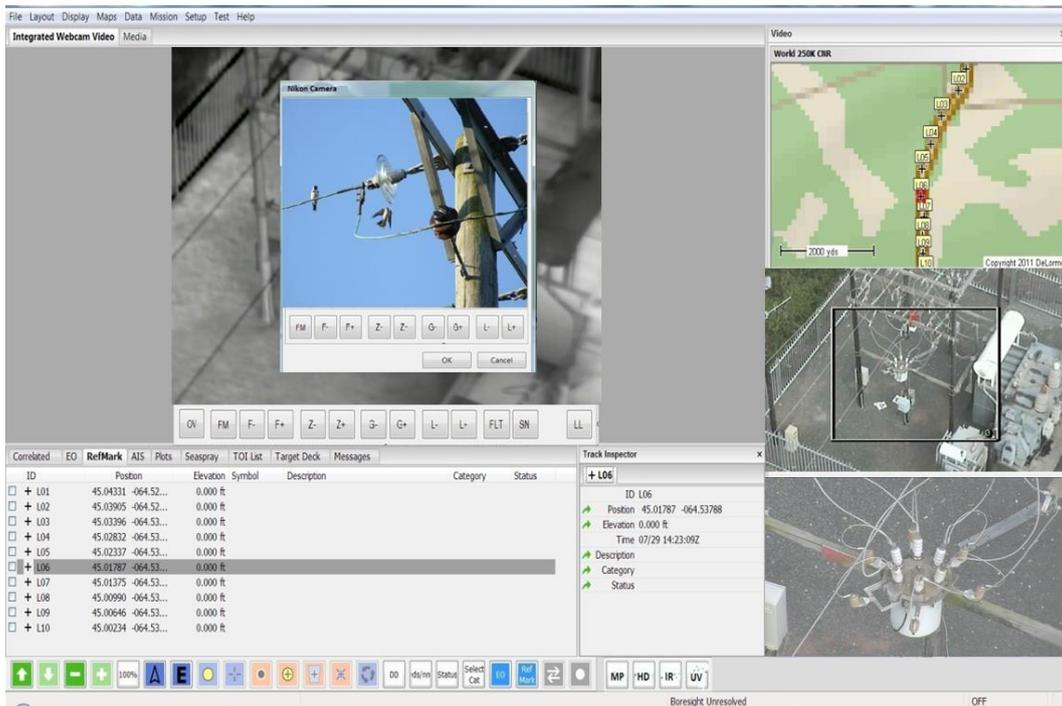

Figure 5 – Digital Photo Image Dialog
- High Resolution photo camera (Figure 5)